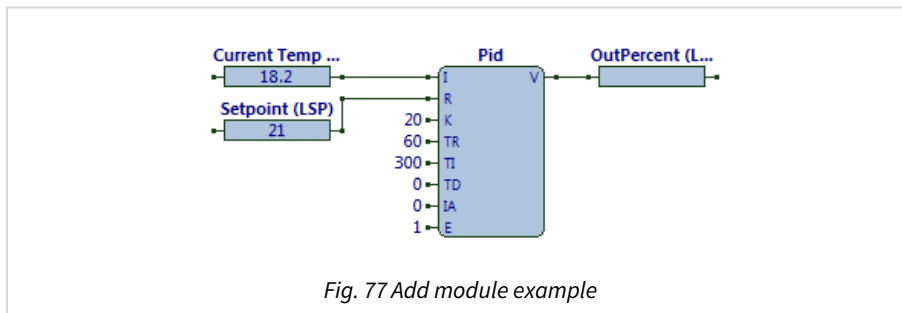

Fig. 77 Add module example
The ObVerse strategy (Fig. 77) calculates an output percentage, in the range '0'..'100', to control the heat supply. The Gain (K) is '20', which implies the proportional part of the output will give 100% output if the temperature is 5 degrees below the Setpoint, because  $\text{Error} \times \text{Gain} = \text{Output}$ . The integral part of the output is quite fast, allowing 300 seconds to add another gain to the output – after 5 minutes another 20%, after 10 minutes another 20%, etc.